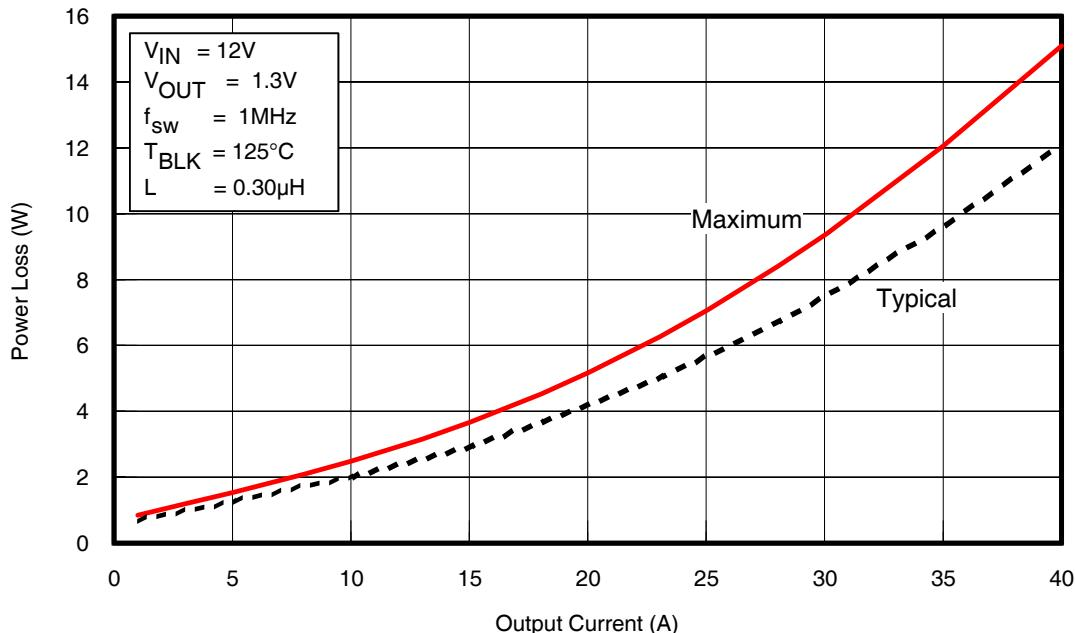
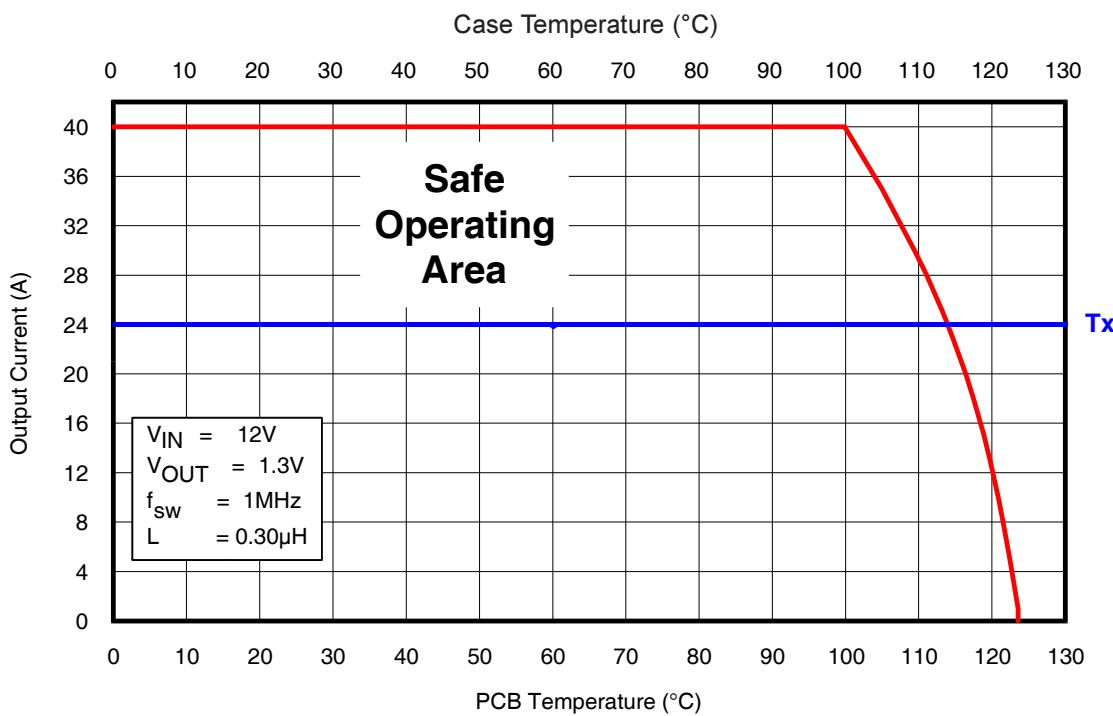
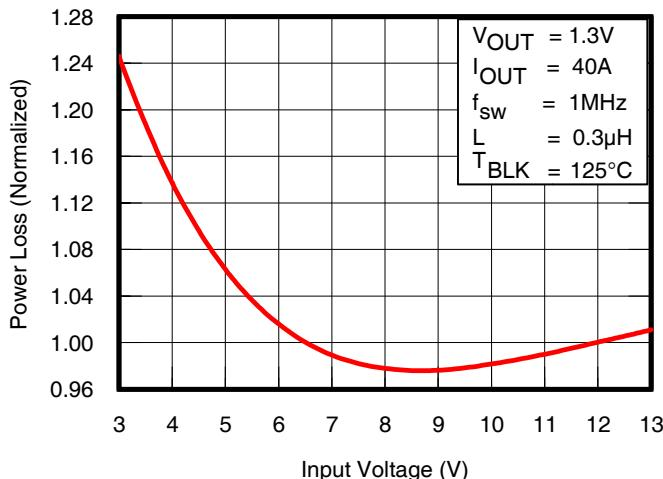

Fig. 1: Power Loss vs. Current
Fig. 2: Safe Operating Area (SOA) vs.  $T_{PCB}$  &  $T_{CASE}$
Fig. 3: Normalized Power Loss vs.  $V_{IN}$
Determine the maximum current for each iP2003PbF and obtain the maximum power loss from Fig 1. Use the curves in Figs. 3, 4, 5 and 6 to obtain normalized power loss values that match the operating conditions in the application. The maximum power loss under the operating conditions is then the product of the power loss from Fig. 1 and the normalized values.
Determine the maximum PCB temperature and Case temperature at the maximum operating current of each iP2003PbF. Obtain the SOA temperature adjustments that match the operating conditions in the application from Figs. 3, 4, 5 and 6. Then, add the sum of the SOA temperature adjustments to the  $T_x$  axis intercept in Fig 2.
- (Fig. 1) Maximum power loss = 15W
- (Fig. 3) Normalized power loss for input voltage  $\approx 0.98$
- (Fig. 3) SOA Temperature Adjustment for input voltage  $\approx -0.5^{\circ}\text{C}$